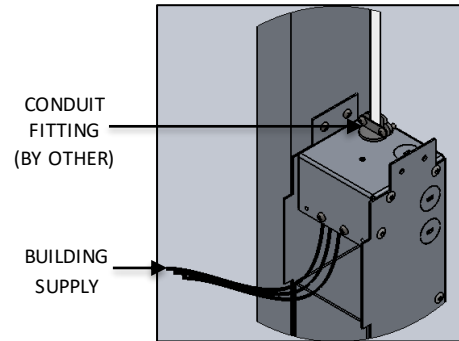

FIG. 11- DETAIL SHOWING BUILDING SUPPLY AND CONDUIT FITTING
6. Attach appropriate 1/2" CONDUIT FITTING to knockouts and run building supply connections into the box. make sure to pull the wires out through the square opening as shown below in FIG. 11 & 12.